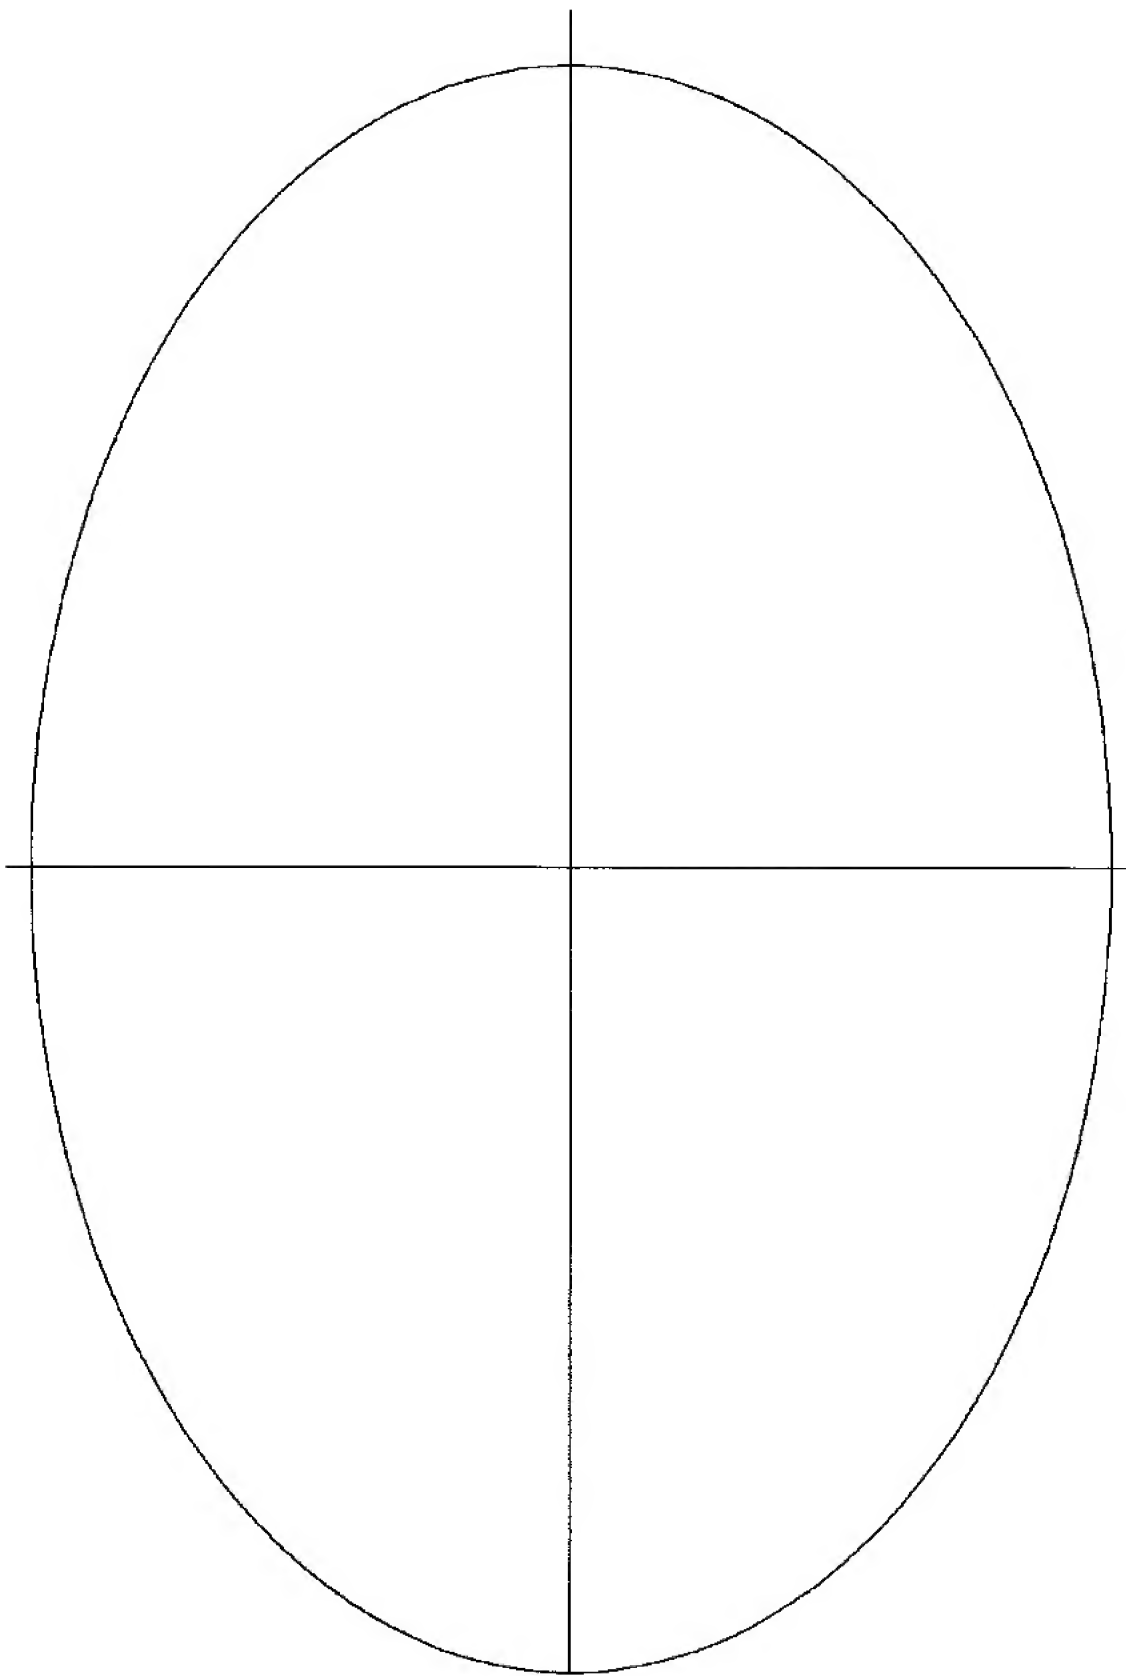

Figure 2-3 5 $\frac{5}{8}$ -by 8 $\frac{3}{8}$ -in oval template.
6. Make a photocopy of the 5 $\frac{5}{8}$ - by 8 $\frac{3}{8}$ -in oval template shown in Figure 2-3 and carefully cut it out. Align the centerlines and trace the outline on each of the four top boards as shown in Photo 2-8.